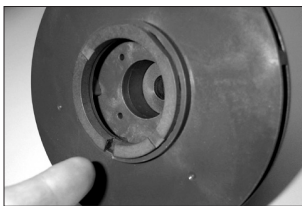

Figure 23
1. Using a razor knife or side cutters, cut a notch out of the thrust ring. Pull up and out of the holder. See figures 23 and 24.